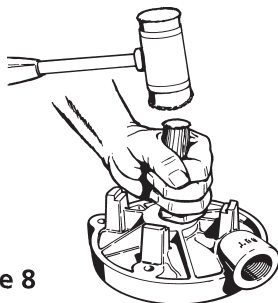

Figure 8
8. Before the motor bracket (Ref. No. 1) can be removed, the four (4) "O" rings (Ref. No. 4), located on the upper left and right studs must be removed.
9. Remove the seat portion of the seal (Ref. No. 6B)(refer to Figure 8).